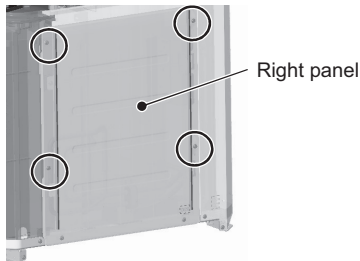
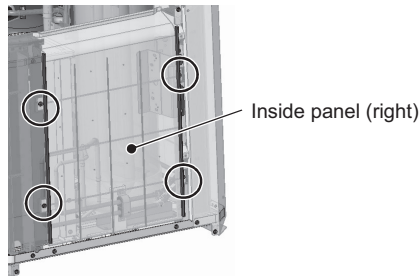
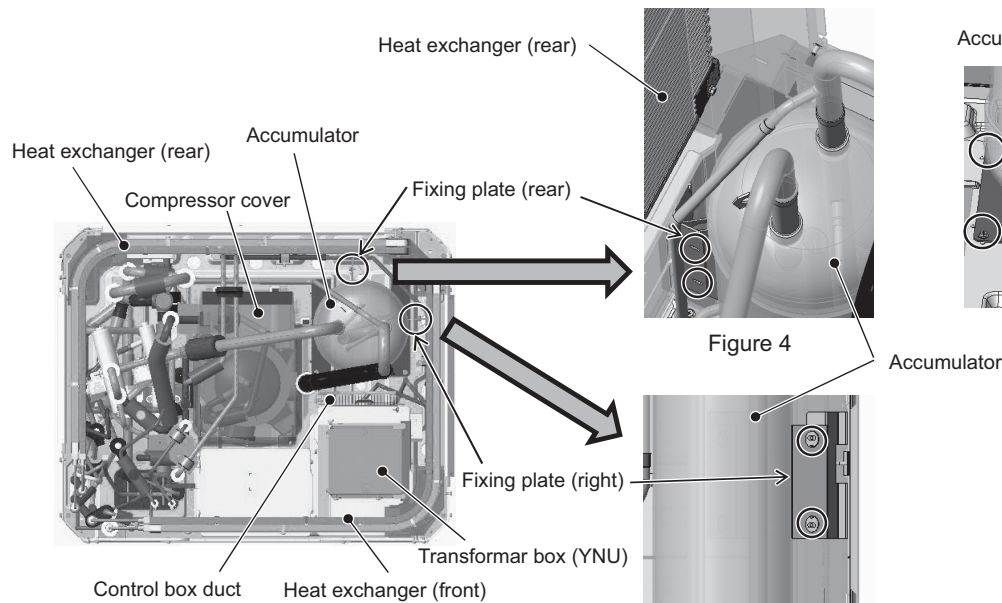
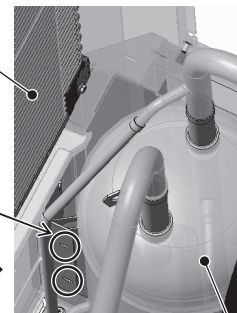

Figure 1
Figure 2
Figure 3
Figure 4
- (1) Remove the front heat exchanger. Refer to 8-13-9 Maintenance Procedures for the Heat Exchanger for details.
- (2) Remove the top, front, and right compressor covers. Refer to 8-13-5 Compressor Replacement Procedure for details.
- (3) Remove the duct from the control box. Refer to the control box replacement procedure for details.
- (4) Remove the right and inside (right) panels by unscrewing the eight screws. (See Figures 1 and 2.)
- (5) Unscrew the two screws from the right accumulator fixing plate. (See Figures 3 and 5.)
- (6) Unscrew the two screws from the rear accumulator fixing plate. (See Figures 3 and 4.)
<p><KB type, J type, and 4-, 6-, 8-branch types></p> <ol style="list-style-type: none"> 1) Remove the control box by unscrewing the four fixing screws. (Figure 1) 2) Unscrew the four service panel fixing screws. (Figure 2) 3) Remove the top panel by unscrewing the nine fixing screws. (Figure 2) <p><For J-type, 12- and 16-branch types, JA-type, and KA-type></p> <ol style="list-style-type: none"> 1) Remove the service panel (1) by unscrewing the two fixing screws. (Figure 3) 2) Remove the control box by unscrewing the four fixing screws. (Figure 3) 3) Remove the top panel by unscrewing the 10 fixing screws. (Figure 4) 4) Remove the service panel (2) by unscrewing the two fixing screws. (Figure 4) 	<p>Figure 1: Control Box</p> <p>Figure 2: Ceiling panel, Service panel</p> <p>Figure 3: Control Box, Service panel (1)</p> <p>Figure 4: Ceiling panel, Service panel (2)</p>
<p>1) Remove the fixing screw on the long side of the bottom panel. (Four places encircled by circles in Figure 1)</p> <p>2) To prevent the bottom panel from falling, of the four screws indicated with triangles in Figure 1, only loosen (but not remove) the two screws that are diagonally located or on the opposite ends of the long side of the panel (either (1) and (3), (2) and (4), (1) and (4), or (2) and (3)). Remove the two remaining screws.</p> <p>3) As shown in the enlarged view of Figure 1, the fastening screw hole on the short side looks like two circles in different shape joined together (double-snowman shape). Slide the bottom panel in the direction of the arrow, and remove it in the downward direction. (Figure 2)</p> <p>4) When removing the drain pan, hold the protruded area of the panel or the socket and pull it straight down, using caution not to let it come into contact with the sheet metal. (Figure 3) If the drain pan comes into contact with the sheet metal, the drain pan may be scraped, leading to water leakage.</p> <p>Installing the bottom panel</p> <p>1) Of the four screws indicated with triangles in Figure 1, partially tighten the two screws that are diagonally located (either (1) and (3), or (2) and (4)).</p> <p>2) Thread the screw into the double-snowman shaped hole, move the panel in the opposite direction as when it was removed in step 3) above, set the screw into the smaller circle, and tighten the screw to hold the panel in place.</p> <p>3) Tighten the remaining screws.</p> <p>Note Do not stay directly underneath the unit when working with the bottom plate. Remove the drain piping to remove the drain pan. Check that no water has accumulated in the drain pan.</p>	<p>(Figure 1) Bottom panel</p> <p>(Enlarged view of Figure 1) Slide direction</p> <p>(Figure 2)</p> <p>(Figure 3) Protrusion, Socket, Drain pan</p>